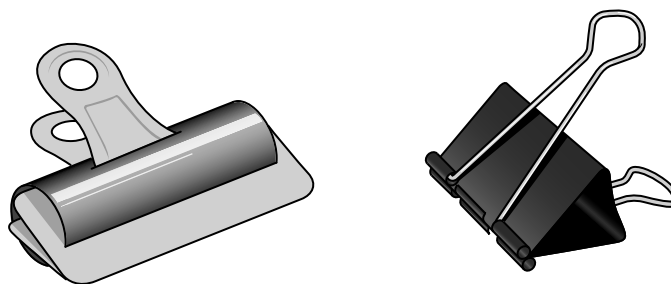

Fig. 2.1
- 3 Examples of suitable clips are shown in Fig. 2.1. The clips should have a hole through each handle. It should be possible for the rod of the clamp to fit through the holes in the handles of the clip. The jaws of the clip should be strong enough to securely grip each of the wires.